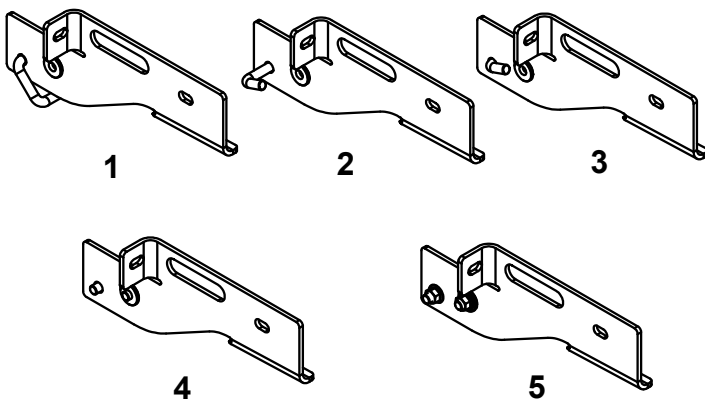
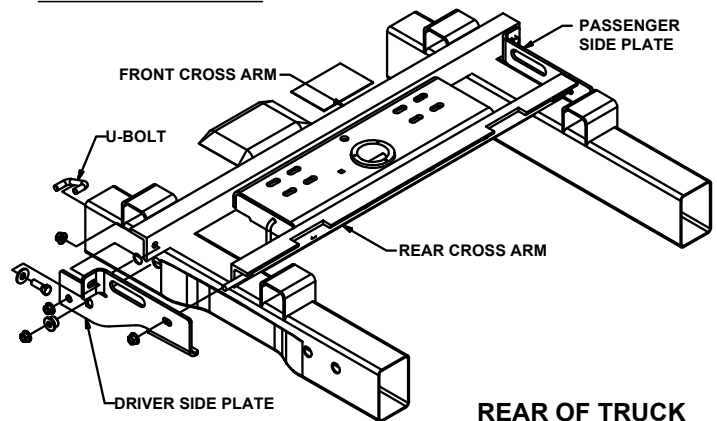

FIGURE 1
FIGURE 2
- Raise the center section in position between the cross arms with the **ball cylinder towards the rear of the truck**. The round hitch receiver that protrudes from the top of the center section must fit through the hole in the truck bed. Using (8) 1/2" carriage bolts and flange nuts, attach the center section to the square holes in both cross arms. **(Finger tight only.)**
- Square the center section and cross arms across the frame. Hang the side plates from the 1/2" studs extending from the rear cross arm. Fasten them with 1/2" flange nuts **finger tight only**. Next, bolt the front flange of the sideplate to the front cross arm using a 1/2" x 1 1/2" hex bolt, 1/2" washer, and 1/2" flange nut as shown in **Figure 2**. The two holes at the front of the sideplates should now be aligned with two holes in the frame behind the shock and shock mount. Use the 2" U-bolt with one flange nut placed loosely to one end of the U-bolt and place the opposite end into the smaller hole at the front of the sideplate and twist through the frame until the threaded end is protruding out the other hole of the sideplate as shown in **Figure 1**. Place the U-bolt bushing over the U-bolt and into the hole of the sideplate and frame. Make sure to penetrate the frame with the bushing in order for the sideplate to rest flat against the frame. Now attach a 1/2" flange nut and **finger tight only**.